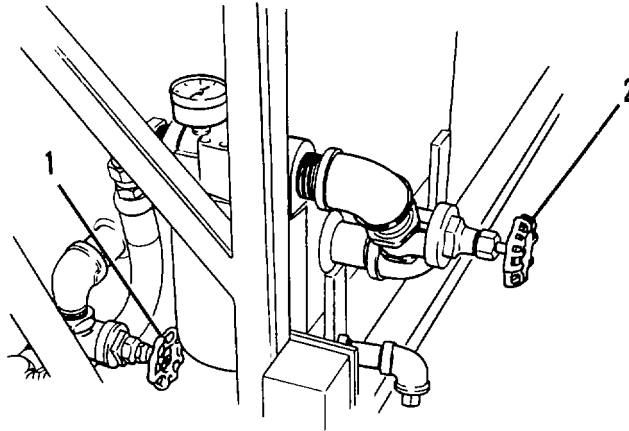

Figure 3-29.2. Hydraulic System Gate Valves.
- (9) Open (turn fully counterclockwise) the supply and return line gate valves (1 and 2, Figure 3-29.2).